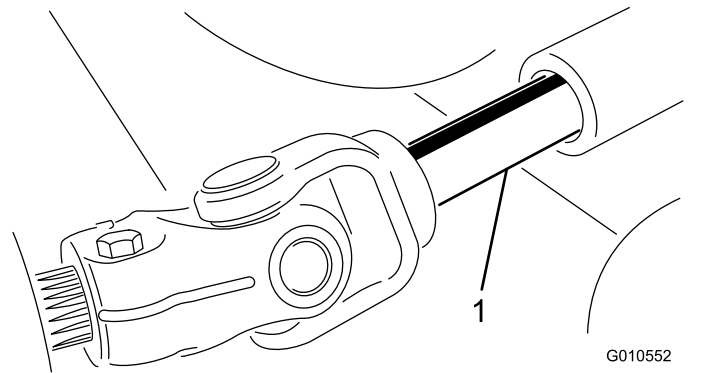

Figure 20
4. Roll the cutting unit away from the traction unit, separating the male and female sections of the PTO shaft (Figure 20).